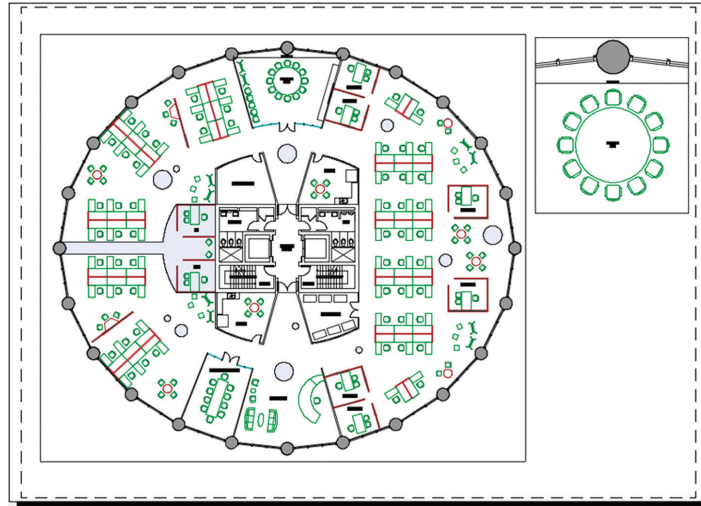

FIGURE 13.20 Creating and configuring a new viewport detailing the conference room
10. Double-click within the new viewport to enter its model space. Select 1/2" = 1'-0" (or 1:20 in metric) in the Viewport Scale menu on the status bar; the viewports zoom into the Elevator Lobby again. Pan downward until you center the view on the conference room. Double-click outside the viewport to return to paper space. Figure 13.20 shows the result.